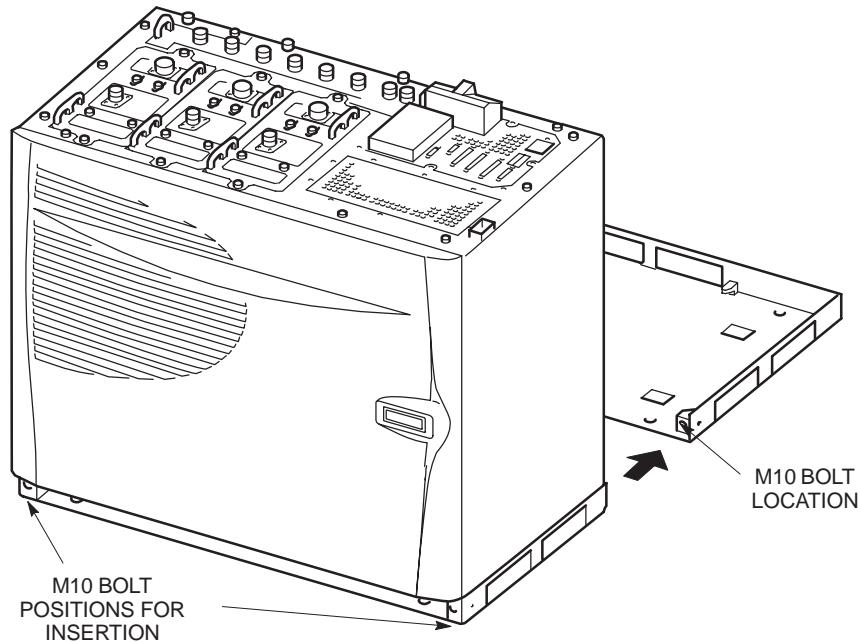

Figure 2-4 Cabinet sliding onto plinth
3. Slide cabinet into the plinth grooves, as shown in Figure 2-4.